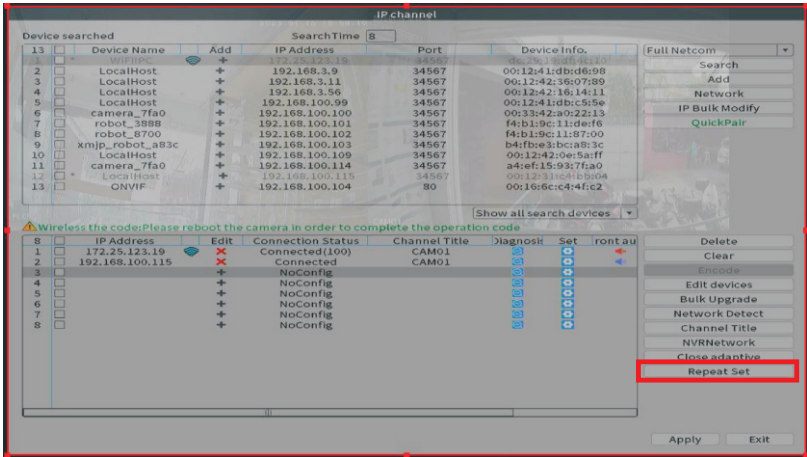

Figure 2. Click on Repeat Set.
- The NVR will display all the available cameras and the other Menu. Select and click **"Repeat Set"** to configure the camera to be used as repeater and to connect the camera to be repeated to connect to NVR. Please see Figure 2.